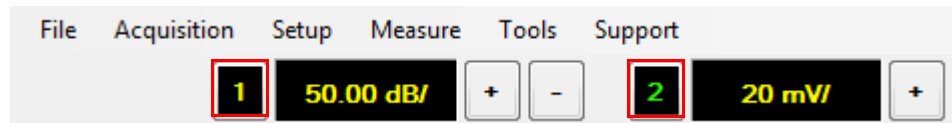

Figure 2-6 Channel number button on the graphical interface
- 1 Select the desired channel number button on the graphical interface to turn on the channel as shown in Figure 2-6.